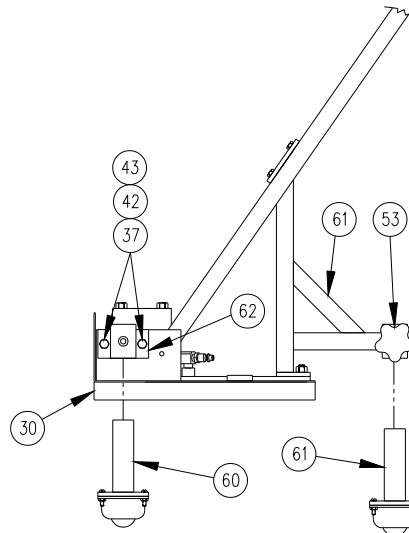

Figure 3-4
- Refer to figure 3-4.** Attach the outer ball transfer mount (item #62) to the sides of the long handle motor and guard assembly (item #30) using the provided hardware (items #37, #42 and #43) and slide side ball transfer mount assemblies (item #60) into outer ball transfer mounts (item #62). Slide rear ball transfer mount assembly (item #61) into rear ball transfer mount located on long handle brace (item #61). Screw the 2 hand knobs (item #53) into the outer ball transfer mounts (item #48). Screw the remaining hand knob (item #53) into the rear ball transfer mount located on the long handle brace (item #61). Adjust to desired height and fasten in place by tightening the hand knobs (item #53).